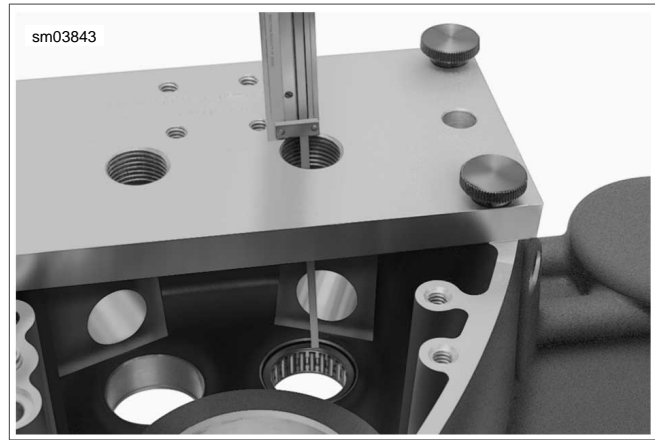

Figure 3-120. Measure from Top of Support Plate to Edge of Needle Bearing
- c. See Figure 3-120. Inserting dial caliper through forcing screw bore, measure distance from top of support plate to edge of needle bearing.